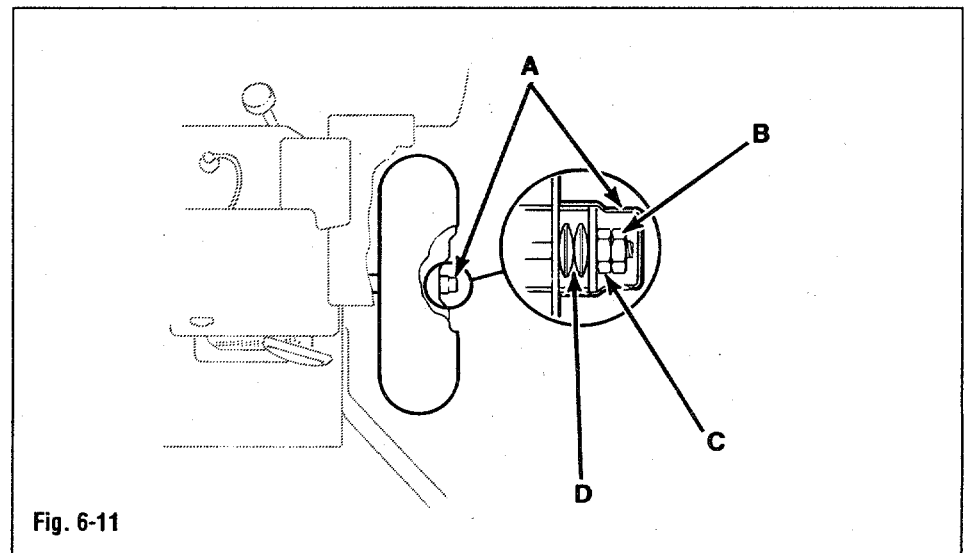

Fig. 6-11
1. Remove black plastic cover (A, Fig. 6-11) at end of right-hand axle shaft. Remove outer jam nut (B). Remove inner jam nut (C) and both pairs (four single) of disc springs (D). Each pair consists of two curved washers aligned so the concave side of one washer faces the concave side of the other washer. Reinstall disc springs (D) and inner jam nut (C). Tighten jam nut (C) by hand until it contacts disc spring, then tighten 1 to 1-1/4 turns more. DO NOT force nut further than 1-1/4 turns or slip differential will not work properly.